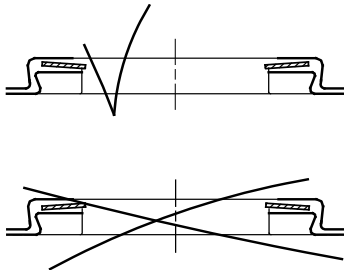

Fig. 29 Correct fitting of wear ring
Check whether it is necessary to replace the impeller due to friction between wear ring and impeller skirt. If wear has caused a noticeable (use a finger nail) groove in the impeller skirt, the impeller should be replaced. It is advisable always to replace wear rings (pos. 45) and wear ring retainers (pos. 65) when the chamber stack is dismantled.	- Prise the wear ring retainer (pos. 65) up and free of the chamber using a screwdriver. - Remove wear ring (pos. 45). - Fit a new wear ring in the chamber. See fig. 29. - Press a new wear ring retainer on the wear ring and into the chamber. It must be possible to move the wear ring freely (sideways) between the retainer and the chamber.